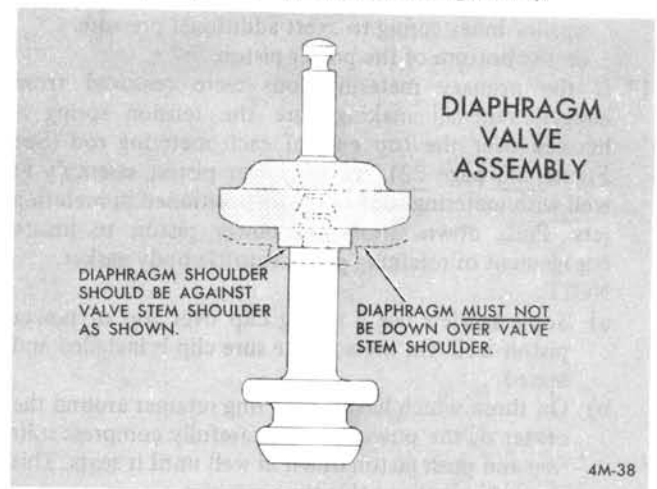

FIGURE 44
4. Install float needle and diaphragm assembly, making sure diaphragm is properly seated (Figure 44).